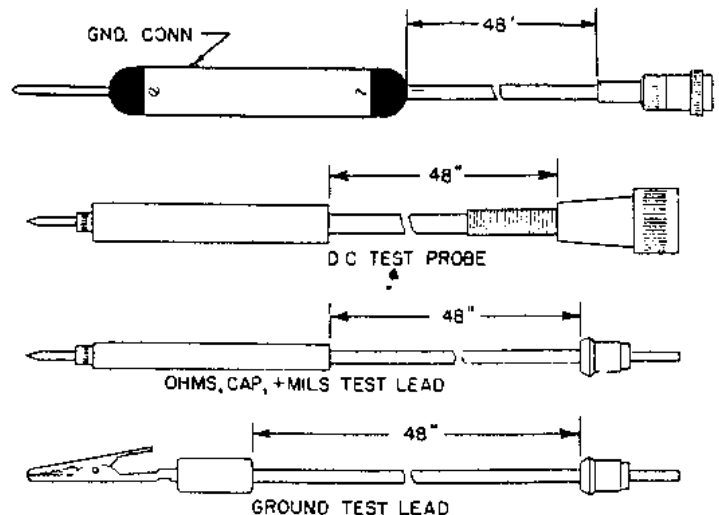

FIGURE 1.3 TEST LEADS
The following leads, as shown in Figure 1.3, are furnished with the Model 209A:
(1) Make visual inspection of the unit to see that it has not been damaged in shipment. Be sure that all test leads are with the unit. Refer to Figure 1.3 - Test Leads. Observe if the indicator is at zero. To reset to zero, turn mechanical adjust on the indicator with a screwdriver. Plug unit into the a.c. line and operate the power switch to ON. The pilot light should come on.
(2) After one minute warm-up, turn FUNCTION SELECTOR to A.C. VOLTS and the CIRCUIT SELECTOR to NORMAL. Rotate the RANGE SELECTOR to 3 VOLTS. Adjust Zero Adjust Control until the indicator comes to zero.
(3) Turn FUNCTION SELECTOR to + D. C. and - D.C. respectively. It should be possible to adjust the indicator to zero by means of the ZERO ADJ. control on both of these positions.
(4) Turn FUNCTION SELECTOR to OHMS and short out the ohms test leads. It should be possible to adjust the indicator to zero ohms by means of the ZERO ADJ. control. Then short the test leads and remove the red test lead from the OHMS-CAP jack. By means of the OHMS-CAP ADJ. control it should be possible to